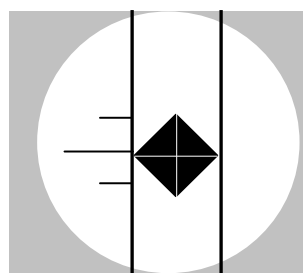

Figure 5-11 Move Right Filar Line to Right Tip
4. Turn the micrometer to move the right filar line to the right tip as Figure 5-11 illustrates.